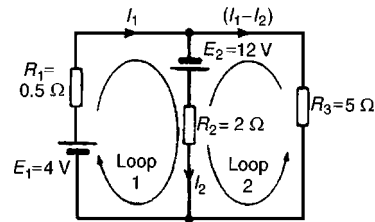

Figure 13.8
1. Currents, and their directions are shown labelled in Fig. 13.8 following Kirchhoff's current law. It is usual, although not essential, to follow conventional current flow with current flowing from the positive terminal of the source
2. The network is divided into two loops as shown in Fig. 13.8. Applying Kirchhoff's voltage law gives: For loop 1: